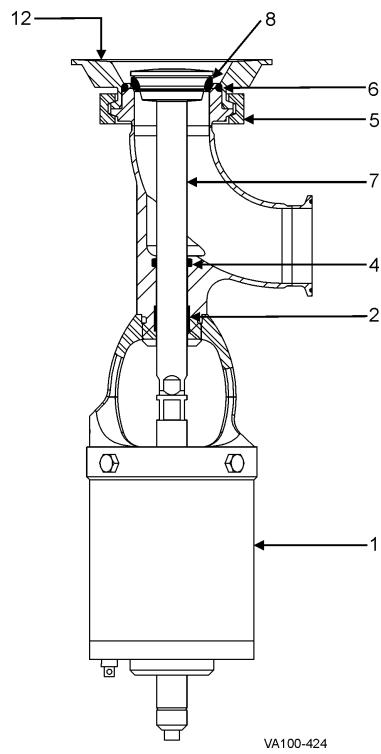

Figure 22: W64ET Tank Outlet Valve
3. Remove the body/tank flange clamp (Figure 22, item 5) and remove the valve from the tank flange.
4. Using 5/8-inch wrench flats on the stem, unscrew and remove the valve stem (item 7).
5. Replace the seat ring (item 8) as needed. See "Seat Replacement" on page 37.
6. Remove the lower body O-ring (item 6); replace as needed.
8. Remove the stem O-ring (item 4); replace as needed.
9. Inspect and replace the PTFE bearing (item 2) as needed.
5. Using 5/8-inch wrench flats on the stem, unscrew and remove the valve stem (item 7).